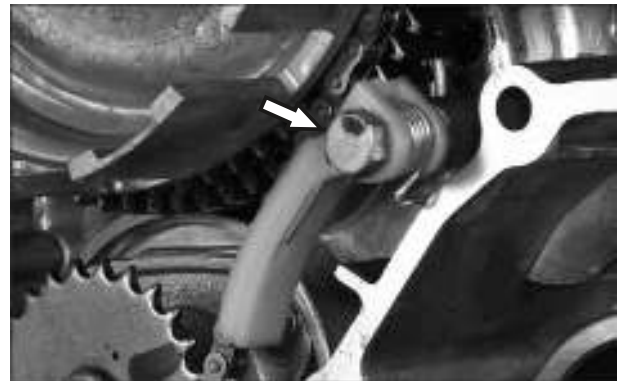

Fig. 3.18
- Remove the guide chain oil pump drive along with spring from crank case R. (Fig. 3.18 )